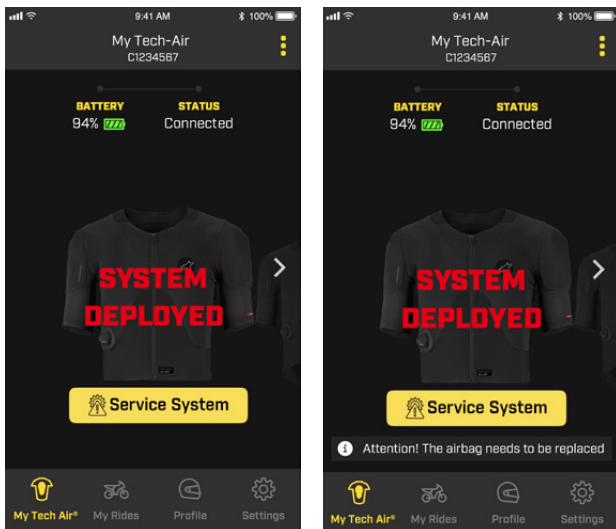

Figure 18: Deployed Tech-Air[®] System View (Left) and Airbag (11) Replacement Notification View (Right).
In the event of a System deployment and when no Gas Inflator (9) is available, the App will notify this status to the User by displaying the message "SYSTEM DEPLOYED" as depicted in Figure 18.